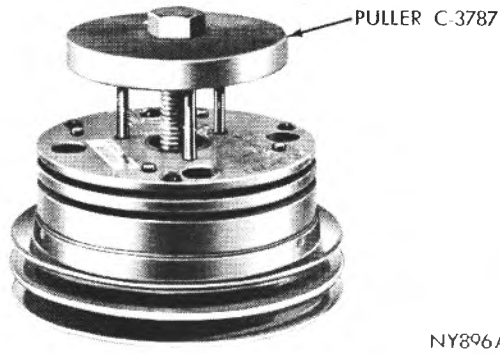
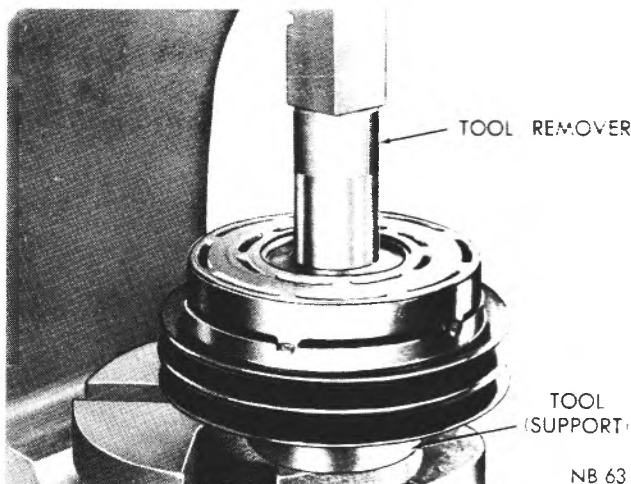

Fig. 30—Removing the Hub and Shoe Assembly
Fig. 31—Removing the Bearing from Pulley Assembly
- (1) Remove the small snap ring from the drive hub with Tool C-3128 or equivalent.
- (2) On Warner Plate Type, install drive hub puller Tool C-3787 aligning the three pins of the Tool in the three holes in the hub and shoe assembly. Tighten the hex head bolt down until the drive hub is removed from the bearing (Fig. 30).
- (3) Remove bearing snap ring from pulley.
- (4) Place pulley assembly on an arbor press, with pulley side down, and bearing hub centered on Tool C-3825. Install Tool SP-3496 on inner race of bearing and press the bearing from pulley assembly (Fig. 31).